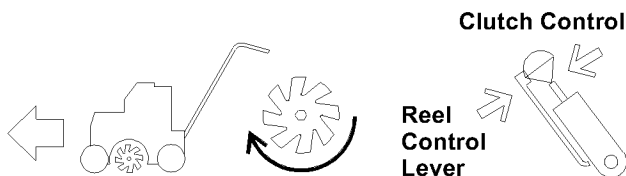

Figure 16. De-Thatching Mode
4. Pull back on the reel control lever and push the clutch control forward to engage both the reel and drive clutches (see figure 16). Adjust the throttle to the operator's desired walking speed.